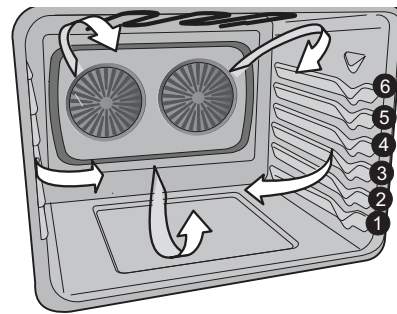

Figure 11: Convection air flow
Convection baking enables you to obtain the best results when baking with multiple pans and racks. The oven can be programmed for convection baking at any temperature between 170°F to 550°F. The convection function uses a fan to circulate the oven heat uniformly and continuously around the oven (Figure 11). This improved heat distribution allows for fast, even cooking and browning results.
- When baking cakes using two oven racks, place Glide rack in position 4 with the flat rack in position 1. (See Figure 11).